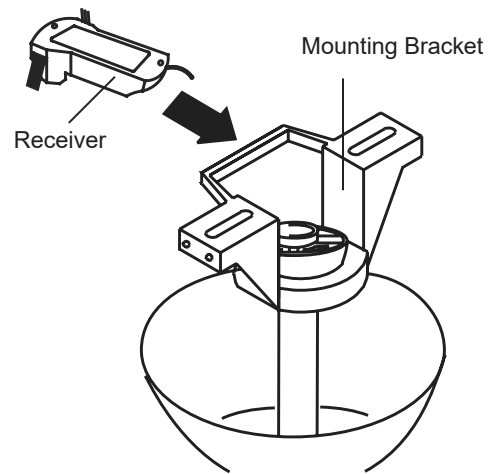

Fig. 13
Step 1. Insert the receiver into the mounting bracket with the flat side of the receiver facing the ceiling. **(Fig. 13)** For best performance, make sure the black antenna wire (on the end of the receiver) remains extended, and does not become tangled with the electrical wires.